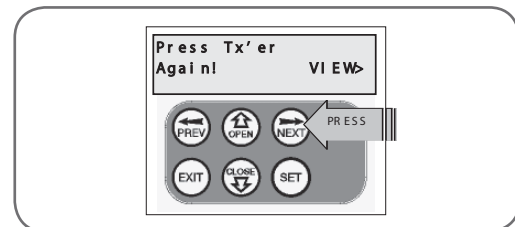

fig 38
4. Press NEXT to view transmitter parameters (Fig. 38). Used for quick navigation if the transmitter is available.